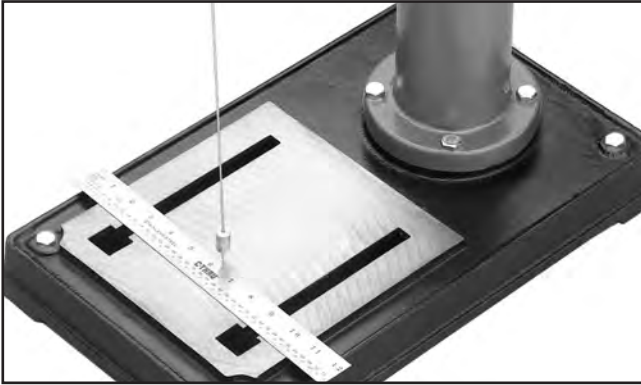

Figure 11. Example of using plumb bob to align headstock to base.
- Suspend a plumb bob from center of headstock spindle so it is over tape/ruler, as shown in **Figure 11**.
- Center headstock directly over base as indicated by plumb bob and ruler (see **Figure 11**).